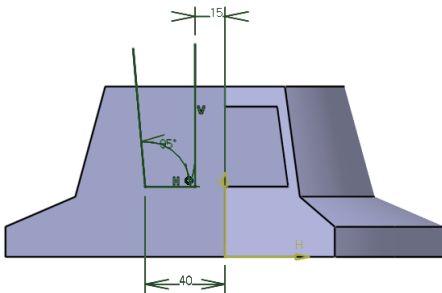

Fig 6-30 The Third Sketch
2. Create an open sketch as shown in Fig 6-30.